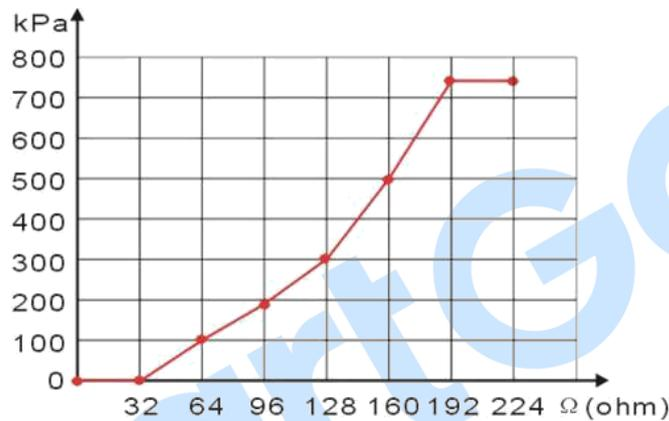

Fig.3 Sensor Curve
- It is applicable to set the headmost and backmost values in the vertical coordinate as the same as the Figure 3.